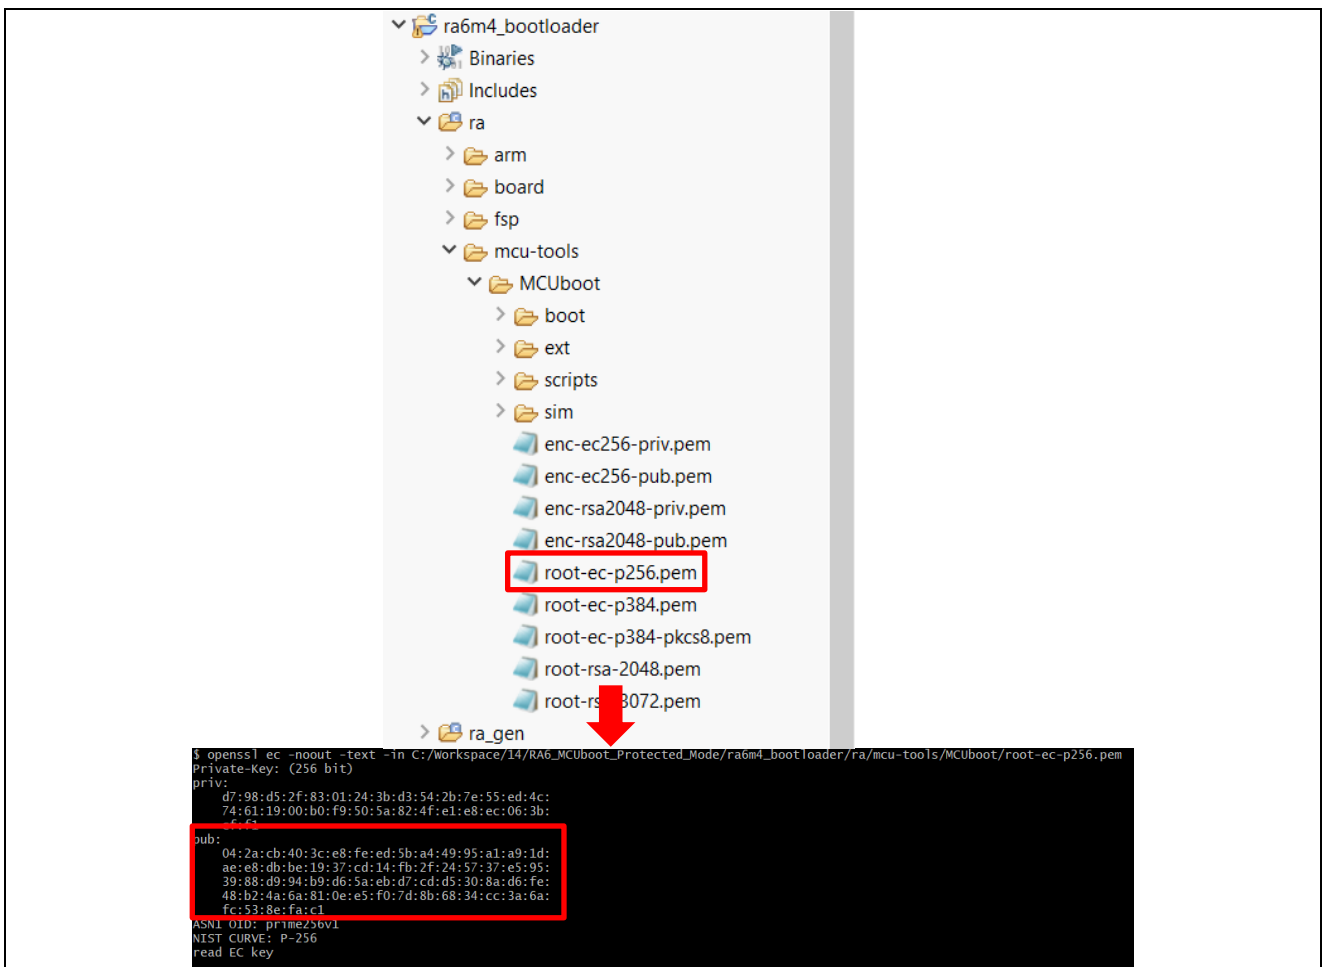

Figure 30. Print out public key data
In this section, we will use the ECC public key data in Figure 30 as an example of preparing an ECC public key for secure key injection.
- 2acb403ce8feed5ba44995a1a91daee8dbbe1937cd14fb2f245737e5953988d994b9d65aebd7cdd5308ad6fe48b24a6a810ee5f07d8b6834cc3a6afc538efac1 is the public key data from Figure 30.